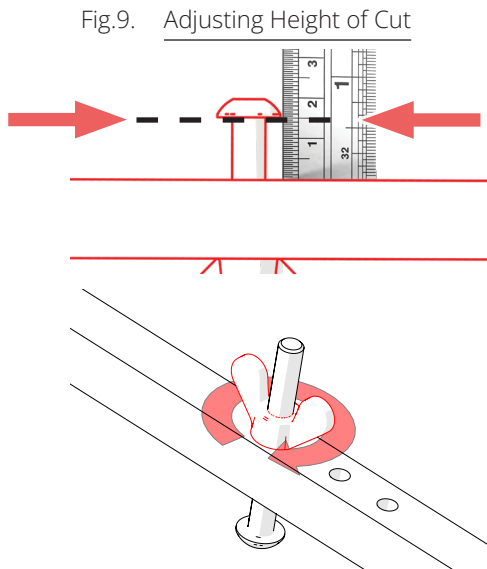

Fig.9A - Adjust bolt to desired cut height and secure nut (above example set for 15mm).
3. On the setting bar, adjust the bolt against the rule until the distance between the base of the bolt head and rule is that of the desired grass length. Secure with the nut [19mm spanner] (Fig. 9A).